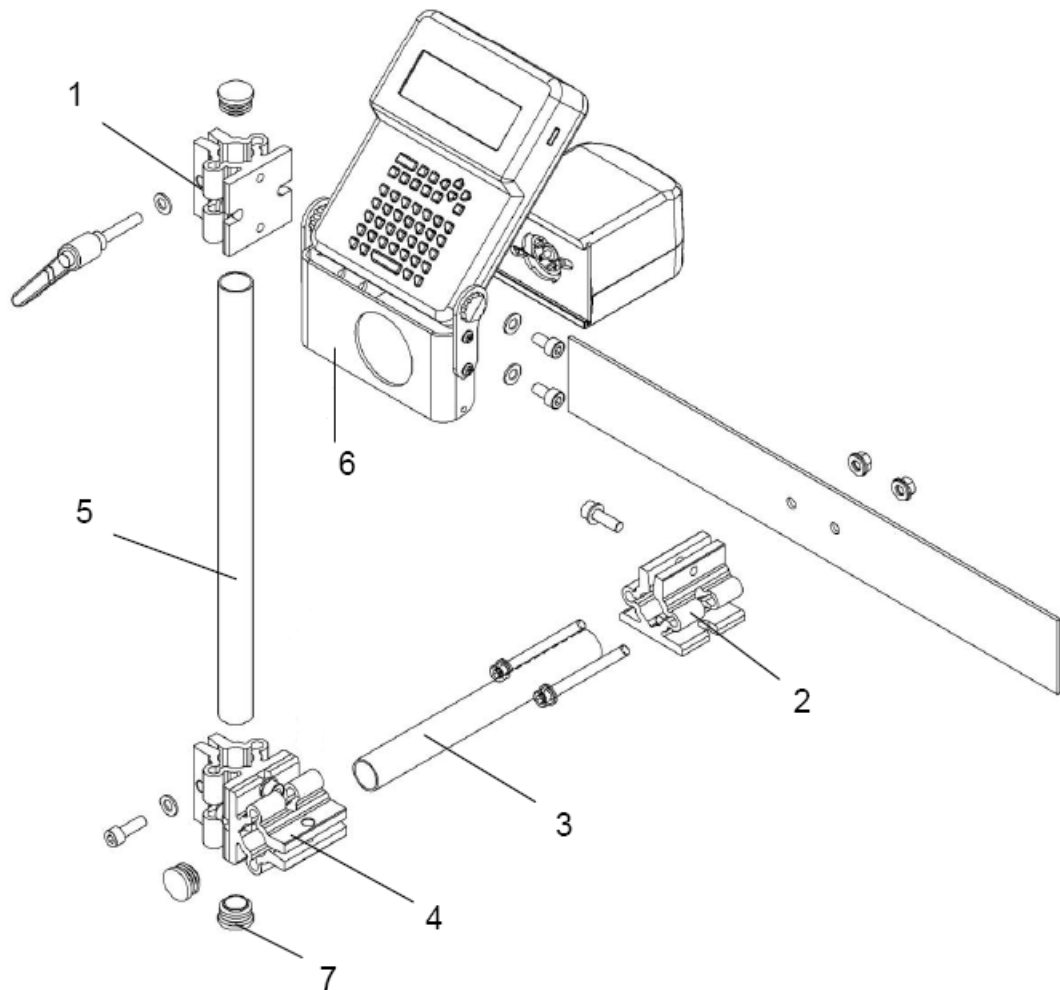

Figure 3-3: Printer Installation
*Note:* For pictorial guidance on the installation steps, refer to Figure 3-3 on page 3-3.